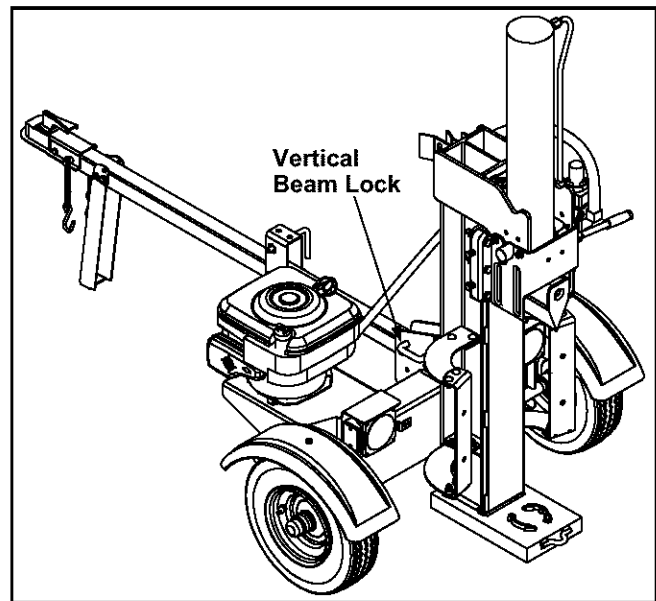

Figure 8
- To lock the beam in the vertical position, pull out on the vertical beam lock and rotate it to secure the beam. See Figure 8 or refer to illustrated parts p16.